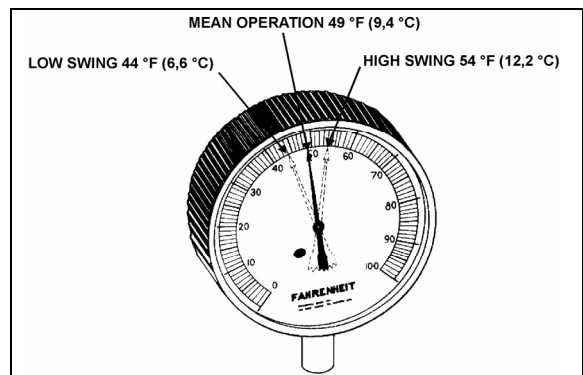

FIGURE 39: HIGH & LOW SWING TEMPERATURE AT REMOTE BULB²²⁰⁴⁷
6. Check approximately 5 readings of pressure at 2-minute intervals and convert to temperature using the temperatures & pressures table (page 38). Likewise check the temperature reading at the remote bulb at the same 2-minute intervals and record the low and high swing readings of the needle (refer to Fig. 39).
Example of readings taken at fig. 39: